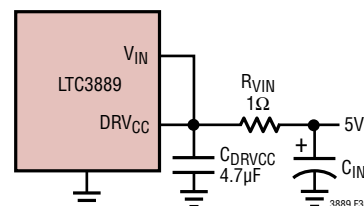

Figure 30. Setup for a 5V Input
For applications where the input voltage is less than 6V, tie the VIN and DRVCC pins together and tie the combined pins to the input with a 1Ω or 2.2Ω resistor as shown in Figure 30. To minimize the voltage drop caused by the gate charge current a low ESR capacitor must be connected to the VIN/DRVCC pins. This configuration will override the DRVCC linear regulator and will prevent DRVCC from dropping too low. Make sure the DRVCC voltage exceeds the RDS(ON) test voltage for the MOSFETs which is typically 4.5V for logic level devices. The UVLO on DRVCC is set to approximately 4V.